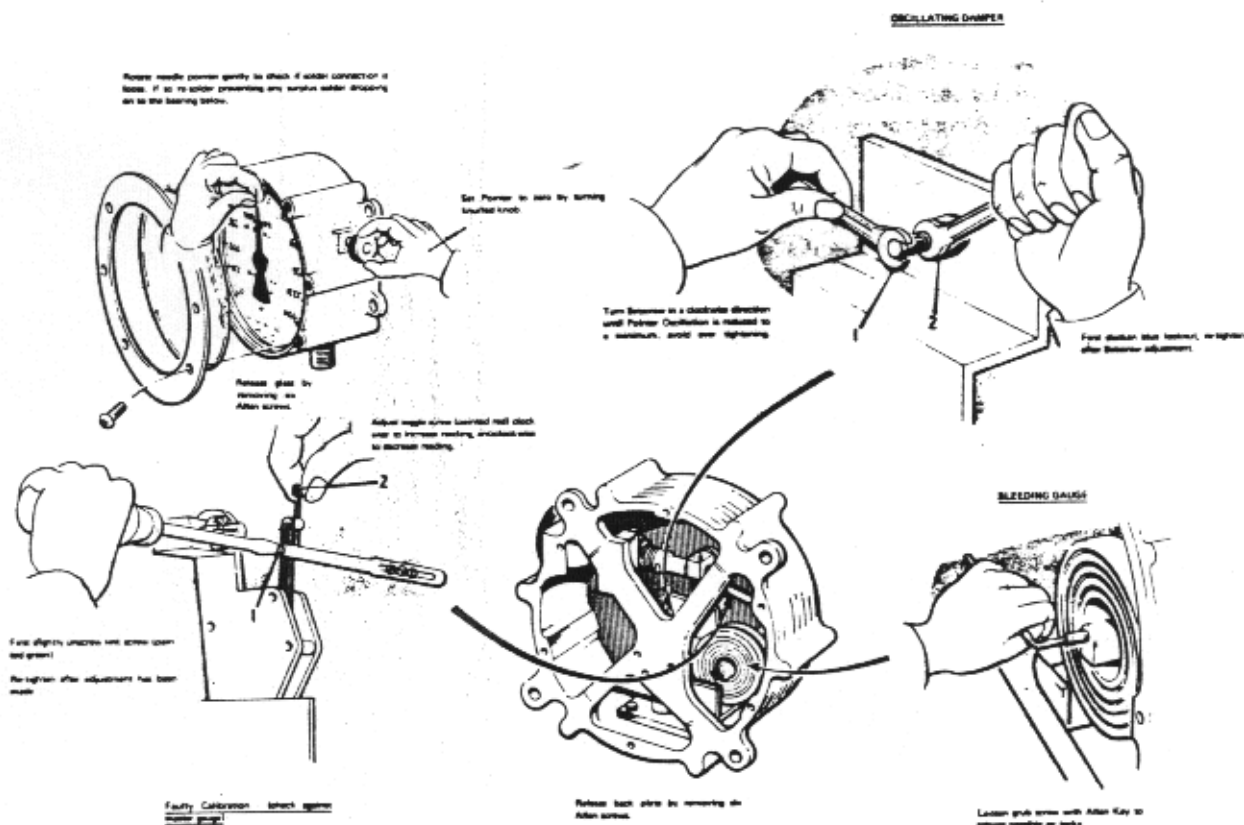

FIG. 1
Gauge Adjustment	Fig. 1
If by any chance a loaded hopper is dropped on to the loadcell by accident, causing undue shock to the gauge, this could loosen the pointer needle which is soldered on to its spindle. If this happens, remove the gauge from the loadcell pipe and release the front glass. Rotate the needle pointer gently to check if the solder connection has become loose. As shown in Fig. 1. If so, re-solder carefully. To ensure correct position for re-soldering pointer. Set the zeroing knob at a mid-position, and solder the pointer back from zero, the combined weight of cradle and hopper. Make sure that surplus solder does not run into the small bearing behind the needle pointer.
If the gauge needle pointer should oscillate unduly, first remove the back plate, by removing six Allen screws. For identification purposes, the only parts requiring adjustment for oscillation are painted blue. Loosen the blue locknut (1), as shown in Fig. 1, and turn the hexagon headed screw (2) below in a clockwise direction, until the pointer oscillation is
If the calibration is found to be inaccurate, the pointer should be adjusted against a master gauge, as shown in Fig. 1. For identification purposes, the only parts requiring adjustment for calibration are painted red and green. First, slightly loosen link screw (1) painted green, then adjust knurled toggle screw (2) painted red, by hand. Turn clock-wise to accelerate the reading and anti-clockwise to decrease reading. This should be done on a gauge test rig or equivalent. After correct adjustment has been made, retighten link screw (1). Other screws must not be interfered with.
Due to a vacuum the gauge will invariably hold its quota of oil, but in any case, lay the gauge on its face and fix a right-angle adaptor to the oil inlet and fill with Wakefield Girling Brake and Clutch Fluid (crimson), shown in Fig. 8 open the bleed screw situated on the middle coil of the Bowden tube shown in Fig. 1. The weight of the fluid will expel any trace of air. Care should be taken to avoid oil dripping onto the back of the dial face. Ensure that the bleed screw is correctly tightened.
When the filling operation is complete, the gauge and loadcell may be refitted to the machine and tested with known weights, provided the adjusting screws in the gauge which control calibration have not been moved, the gauge should register correctly. A zeroing knob is provided on the side of the gauge, as shown in Fig. 1, this should be adjusted with the hopper empty and down on the loadcell. Check there is a clearance between the hopper and ground before zeroing.